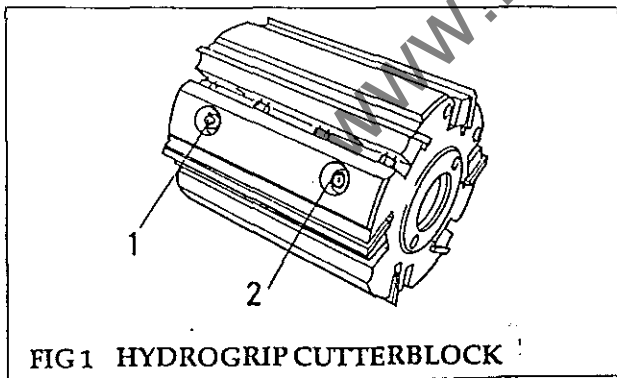

FIG1 HYDROGRIP CUTTERBLOCK
Hydrogrip cutterblocks (fig 1)
- (1) Carefully clean spindles, cutterblocks, spacers and collars before fitting new cutterblocks.
- (2) Carefully place the cutterblock on the spindle. After fitting the cutterblock, replace the outboard bearing assembly and pressurise the bearing to 300bar hydraulically. On the hydrogrip blocks tighten pressure release screw (2), and pressurise the cutterblock by applying hydraulic pressure to the pressure nipple (1) located in a recess located on the barrel of the block (see fig 1).